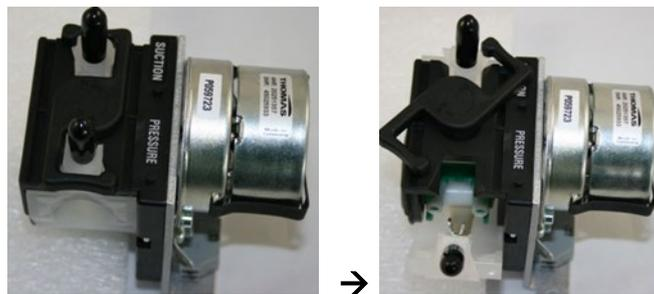

Fig.1
- ▶ Turn the hose pump anchorage (see Fig.1).